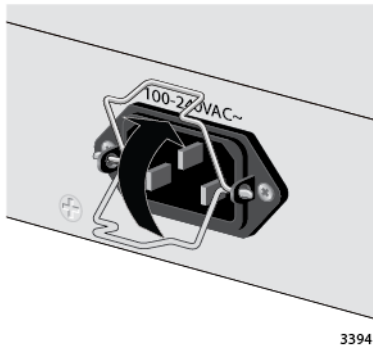

Figure 46. Raising the Retaining Clip
2. Raise the retaining clip. See Figure 46 on page 99.